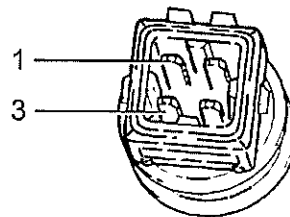

Fig 5 Coolant temperature sender (G62)
11.14 Using a multi-meter, measure the resistance between contacts 1 and 3 on the sender (see Fig 5).